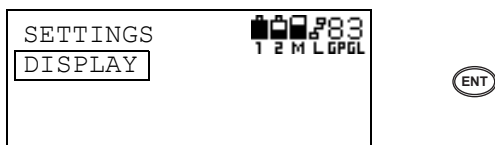

Figure 3-134. Press Enter to Select Display
2. On the Settings screen, press **Enter** to select DISPLAY (Figure 3-134).